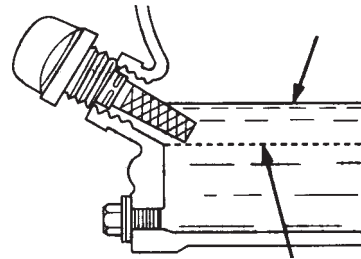

Figure 18. Engine Oil Dipstick (Oil Level)
4. If the oil level is low (Figure 18), fill to the edge of the oil filler hole with the recommended oil type (Table 4).